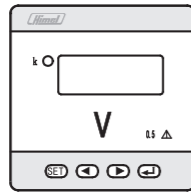

Fig. 4
7.1 Panel diagram (see Fig. 4)